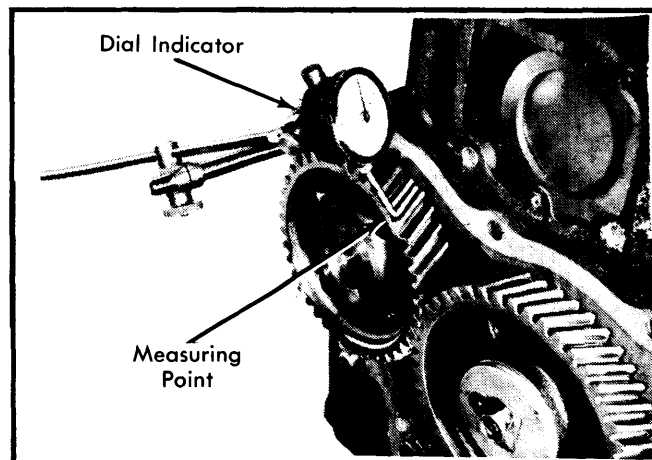

Fig. 14 Camshaft Gear Back Lash Check
3) Check timing gear backlash by mounting dial indicator so that lash is measured from gear tooth profile at right angle to gear shaft. See Fig. 14. Be sure hold down bolt at rear of pump is tight. Backlash should be .004-.009" (0.11-0.24 mm). Replace gear if backlash exceeds limit of 0.01" (0.3 mm).